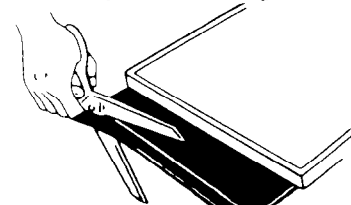

Figure 15
5. Use a pair of scissors to cut toe plate along this line. (See Figure 15.)